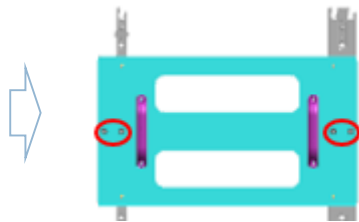

Fig2. Fixing the Jigs (with screws)
- ※ Next, align the ④ JIG with the bracket holes and fasten the four screws. (See Fig.2.)